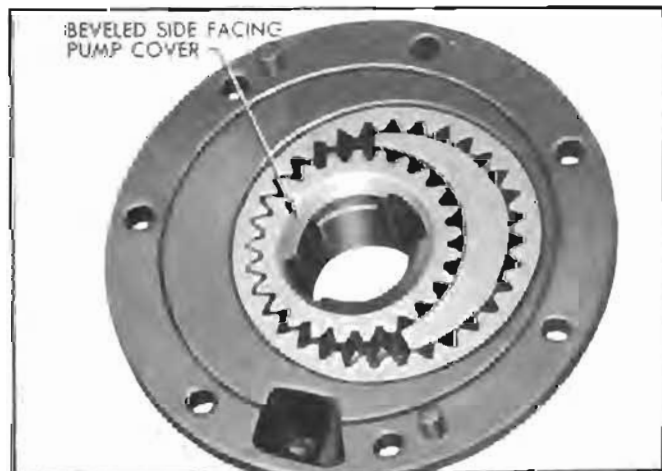

Figure 4-107—Correct installation of Driving Gear in Pump Body
2. Lubricate and install gears in front pump body. The driving gear must be installed with the beveled side outward so that this side will be against the cover when pump is installed. See figure 4-107. *Reversing this gear in pump body will result in severe damage to the transmission.*